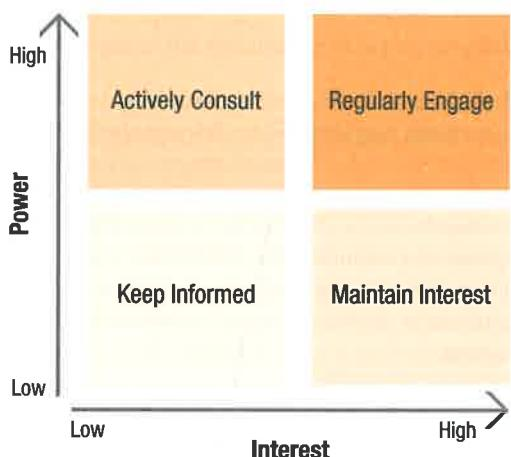

FIGURE 13.2 Power/interest grid
- **Power/interest grid³** This grid is used to group stakeholders based on their level of power and their interest in the project's outcome. Variations of this tool emphasize other stakeholder attributes, such as power/influence or impact/influence. An example of this grid is shown in figure 13.2.